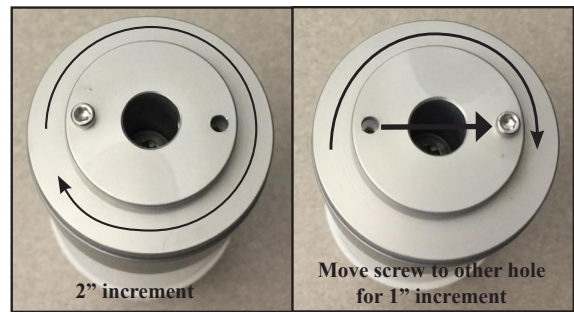

Fig. 2
6. Wrap the cable around the float end slot until the tape reading in the window matches the maximum measurement distance you recorded earlier. Adding cable around the slot reduces the inch value on the gauge. One complete wrap equals 2". A half wrap, which is accomplished by moving the screw to the other hole, equals 1". See Fig. 2 or scan the QR code for a video showing how to adjust the gauge. Note: The float is wrapped with approximately 12" of extra cable to accommodate installations with riser pipes. Replace screw to the top of the float. Use caution to avoid damaging the cable with the
- If the value does not match, make additional adjustments to the cable length (at the float end). Remove the screw from the top of the float using the included hex key wrench. Use caution to avoid damaging the cable with the threads of the screw. Turn the float so the screw threads do not contact the cable. Wrap the cable around the float end slot until the tape reading in the window matches the maximum measurement distance you recorded earlier. Adding cable around the slot reduces the inch value on the gauge. One complete wrap equals 2". A half wrap, which is accomplished by moving the screw to the other hole, equals 1". See Fig. 2 or scan the QR code for a video showing how to adjust the gauge. Note: The float is wrapped with approximately 12" of extra cable to accommodate installations with riser pipes. Replace screw to the top of the float.